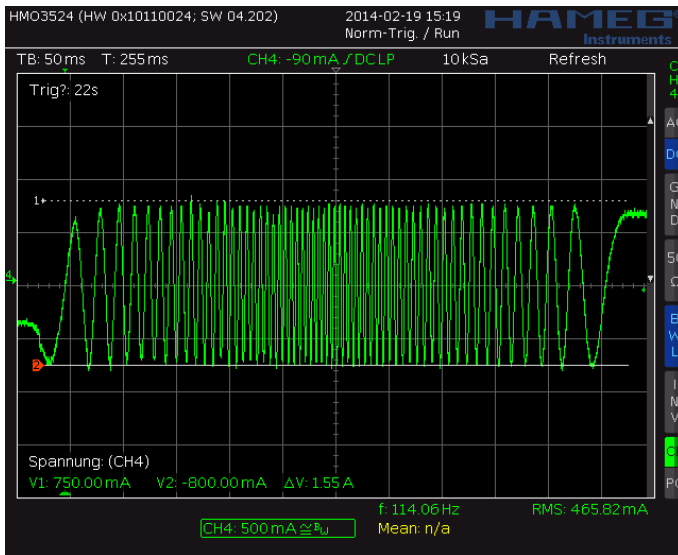
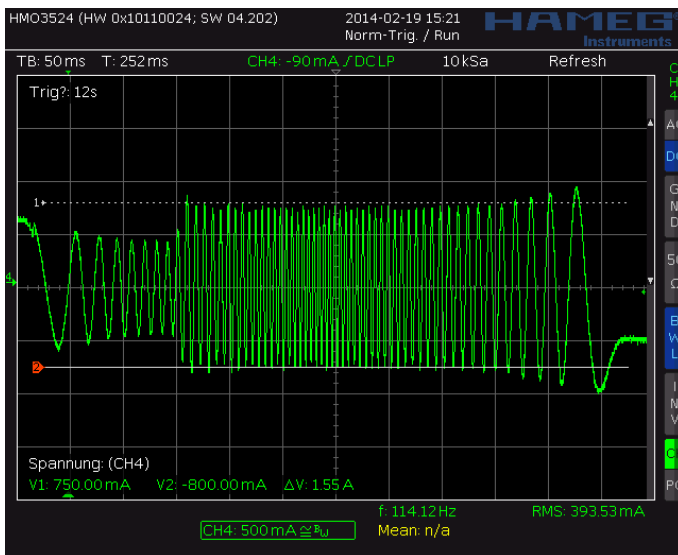
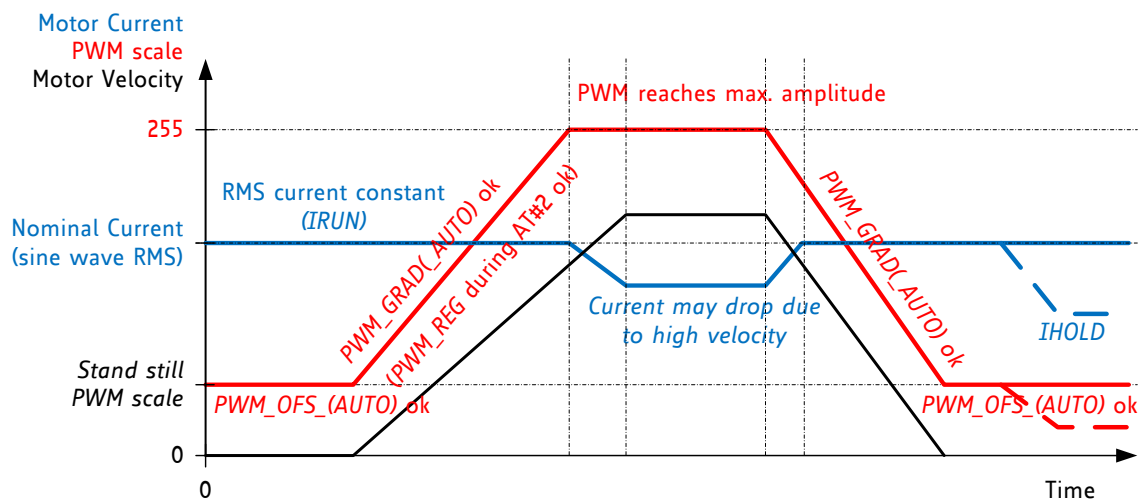

Figure 6.3 Scope shot: good setting for PWM_REG
Figure 6.4 Scope shot: too small setting for PWM_REG during AT#2
Figure 6.5 Successfully determined PWM_GRAD(AUTO) and PWM_OFS(AUTO)
In stealthChop voltage PWM mode, the autoscaling function ($pwm_autoscale = 1$, $pwm_autograd = 1$) regulates the motor current to the desired current setting. Automatic scaling is used as part of the automatic tuning process (AT), and for subsequent tracking of changes within the motor parameters. The driver measures the motor current during the chopper on time and uses a proportional regulator to regulate PWM_SCALE_AUTO in order match the motor current to the target current. PWM_REG is the proportionality coefficient for this regulator. Basically, the proportionality coefficient should be as small as possible in order to get a stable and soft regulation behavior, but it must be large enough to allow the driver to quickly react to changes caused by variation of the motor target current (e.g. change of $VREF$). During initial tuning step AT#2, PWM_REG also compensates for the change of motor velocity. Therefore, a high acceleration during AT#2 will require a higher setting of PWM_REG . With careful selection of homing velocity and acceleration, a minimum setting of the regulation gradient often is sufficient ($PWM_REG=1$). PWM_REG setting should be optimized for the fastest required acceleration and deceleration ramp (compare Figure 6.3 and Figure 6.4). The quality of the setting PWM_REG in phase AT#2 and the finished automatic tuning procedure (or non-automatic settings for PWM_OFS and PWM_GRAD) can be examined when monitoring motor current during an acceleration phase Figure 6.5.